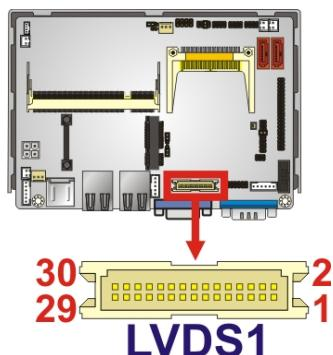

Figure 3-10: LVDS Connector Location
**CN Location:** See Figure 3-10